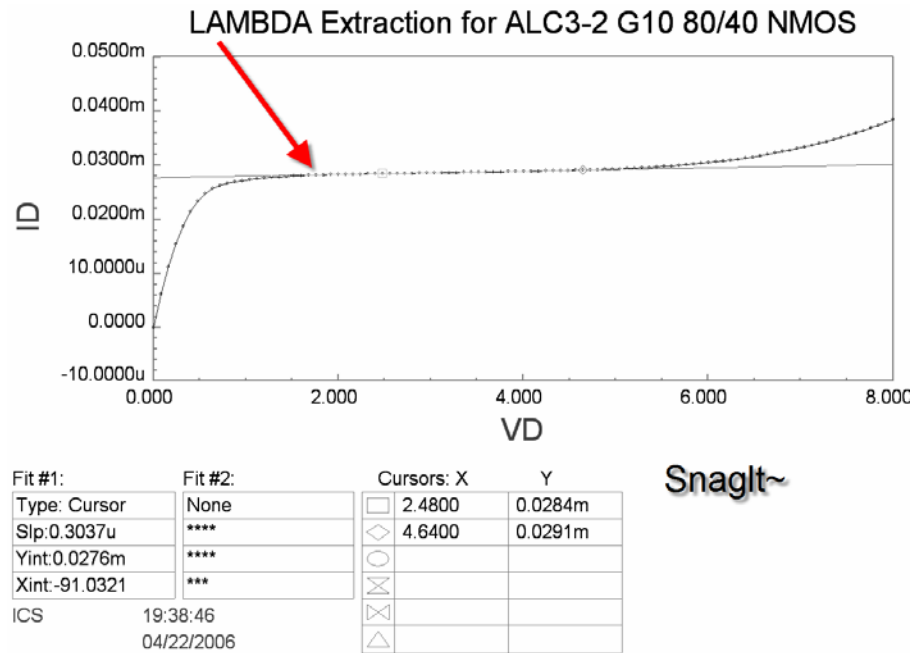

Figure 78: Example of adding text on image
3. After entering the text, press “OK”. The text will appear on the image like in Figure 78.